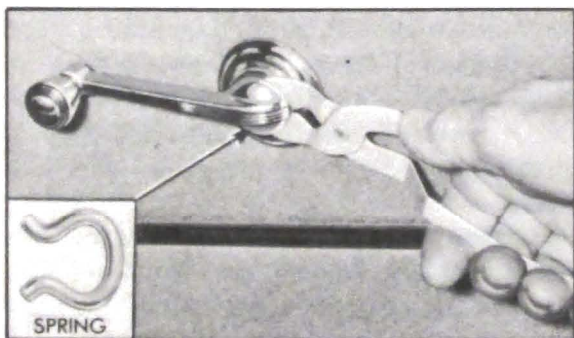

Figure 13-37—Removing Handle Retaining Spring with Pliers KMO 601
1. Remove all door inside handles by pushing inward on the escutcheon and removing the handle retaining spring, using Door Handle Pliers KMO 601. A slight rotating motion of the pliers will easily remove the retaining spring. See figure 13-37.